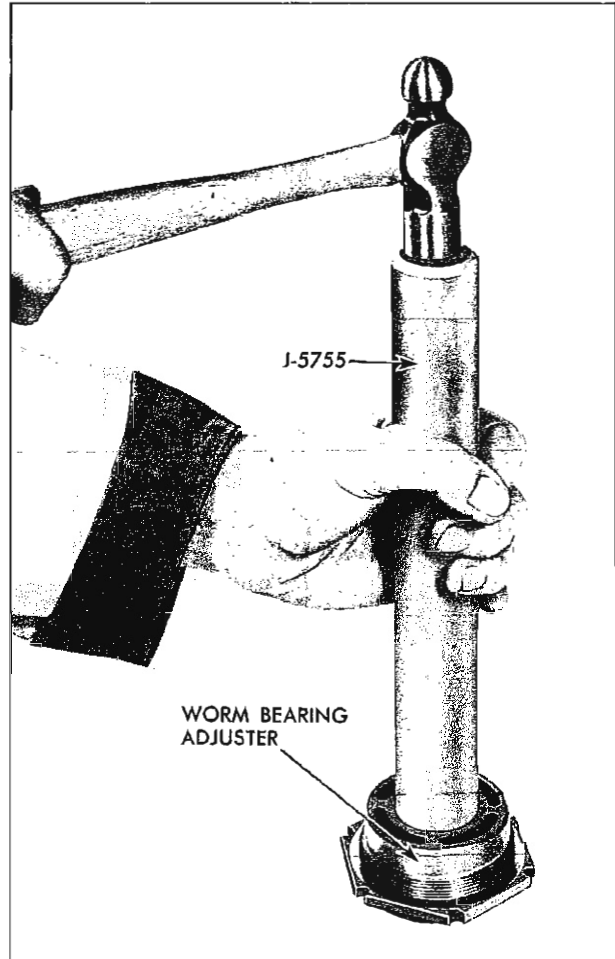

Fig. 9-24 Replacing Bearing Cup
2. Install bearing cup in worm bearing adjuster (Fig. 9-24), using tool J-5755.